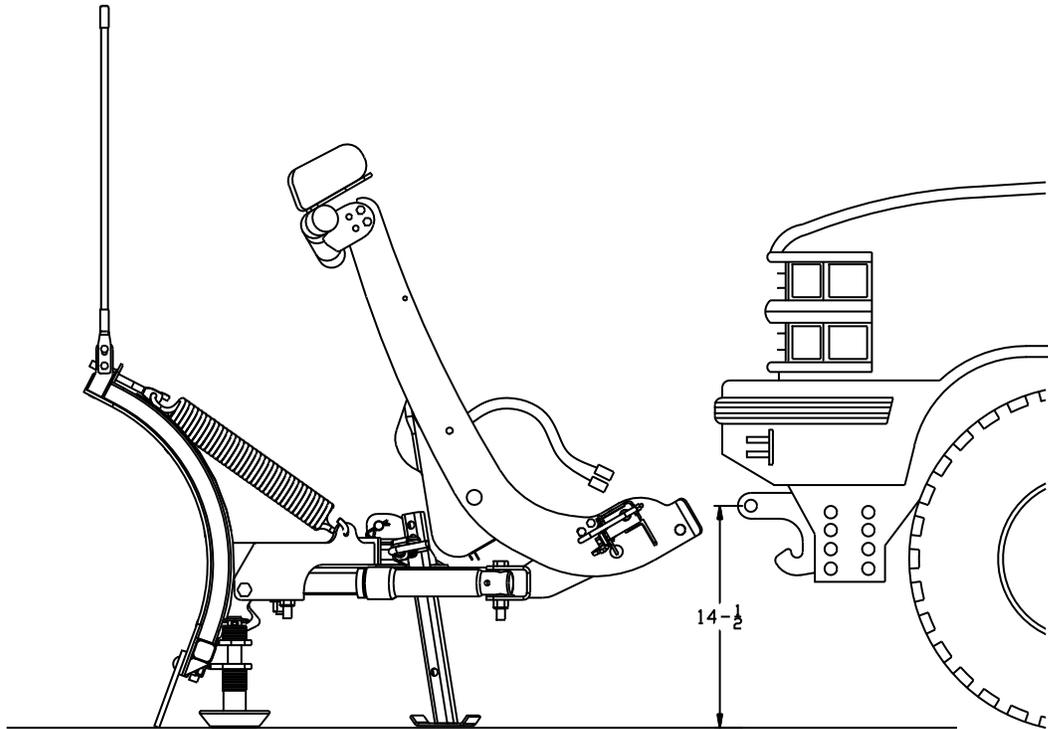

Figure 3
3. Assemble Driver Side Push Beam Support Plate (62B) to the bottom of the driver side frame rail. Align Driver Side Push Beam Support Plate (62B) on the driver side frame rail. Use the existing hardware from the tow hook to bolt the support plate to the frame rail. Using the support plate as a reference, drill three 9/16" holes in the frame. Use bolt puller provided to feed 1/2" – 13 x 1-1/2" Grade 5 Hex Head Bolt (A) with 1/2" Split Lock Washer (D) from the interior of the frame out through the Push Beam Support Plate. Use 1/2" Split Lock Washer (D) and 1/2" – 13 Hex Head Nut (C) to secure the Push Beam Support Plate. Tighten all installed nuts.
**Note:** In the following step, Push Beam Assembly (62) may interfere with the lower plastic valance on the bottom edge of the truck bumper. This plastic valance can be removed or trimmed if necessary.
6. Install Push Beam Assembly (62) between Push Beam Support Plates (62A & 62B) using eight 1/2"-13 X 1-1/2" Grade 5 Hex Head Bolts (A) and eight 1/2"-13 Lock Nuts (D). For Light Duty Plow applications, the center of the receiver hole in Push Beam Assembly (62) should be 14-1/2" from the ground. Refer to Figure 3. Leave hardware finger tight.